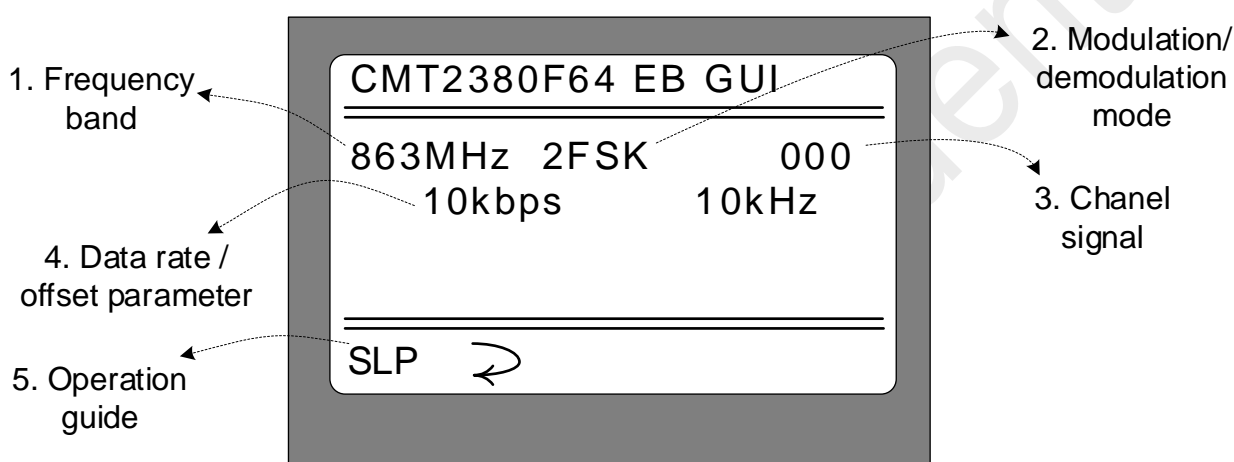

Figure 3-1. Sleep Mode Interface
Selecting "Sleep" mode and short pressing S2 “○” in main menu interface to enter Sleep working mode, as shown in Figure 3-1 below.
2. In this interface, short pressing S3 to make RF part of CMT2380F64 exit Sleep mode and return to the upper menu (that is, the screen shown in Figure 3-1. To return to the main menu, short press S3 once again).